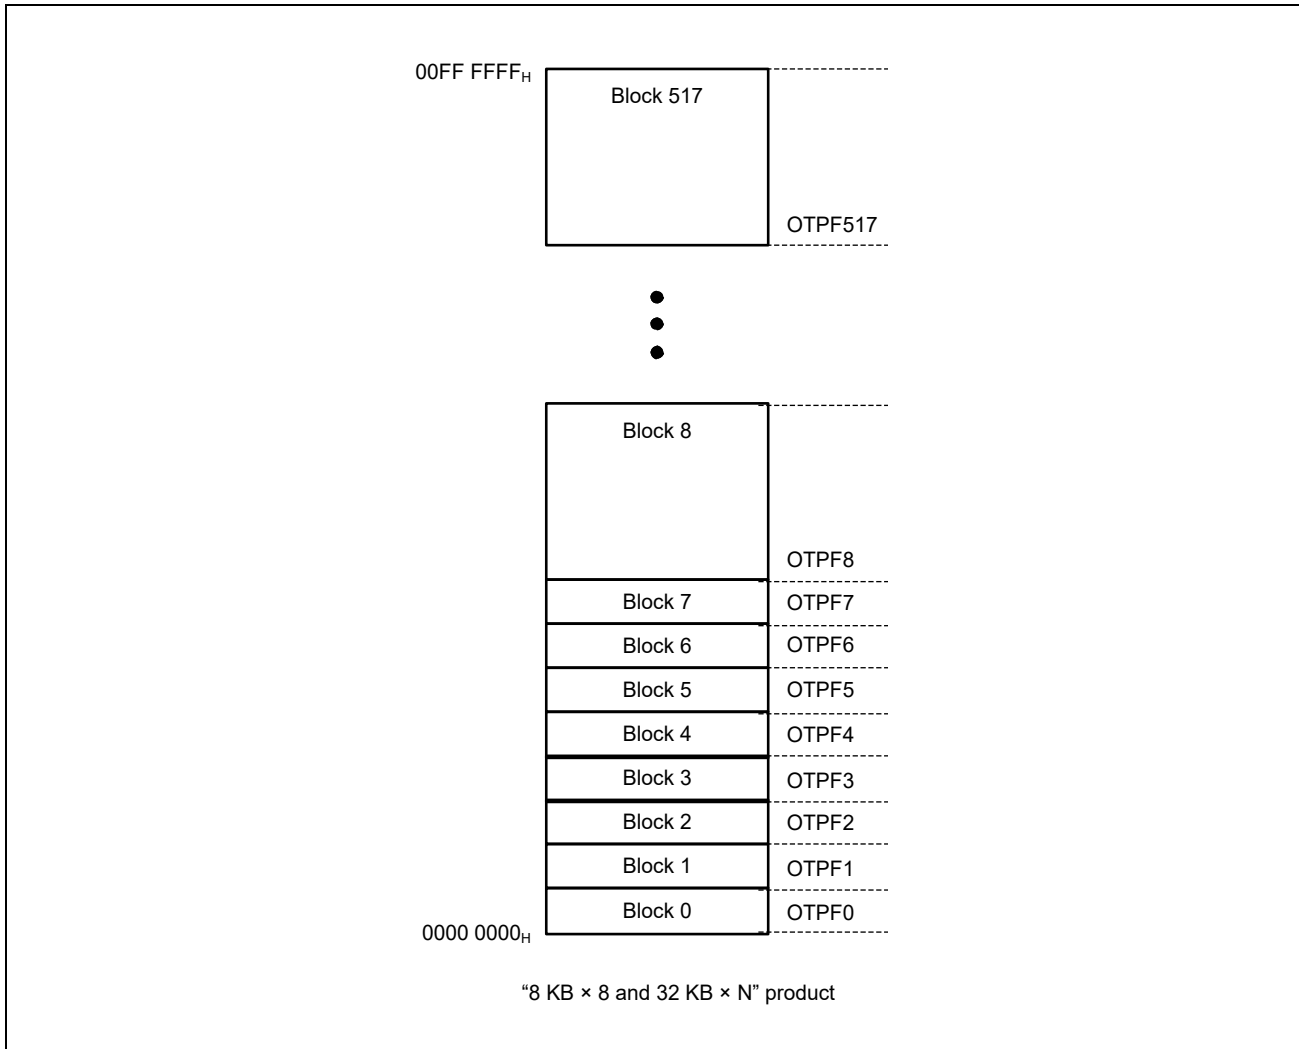

Figure 6.24 Relationship between User Area Blocks and OTP Setting Flags
**Figure 6.24** shows the relationship between the user area blocks and OTP setting flags. An OTP setting flag (OTPF0 to OTPF517) is allocated to each user area block (8 KB × 8 blocks and 32 KB × 510 blocks). The number of blocks that are actually implemented differs from product to product. See *Section 37, Flash Memory of the RH850/F1K User's Manual: Hardware* or *Section 44, Flash Memory of the RH850/F1KH, RH850/F1KM User's Manual: Hardware*.